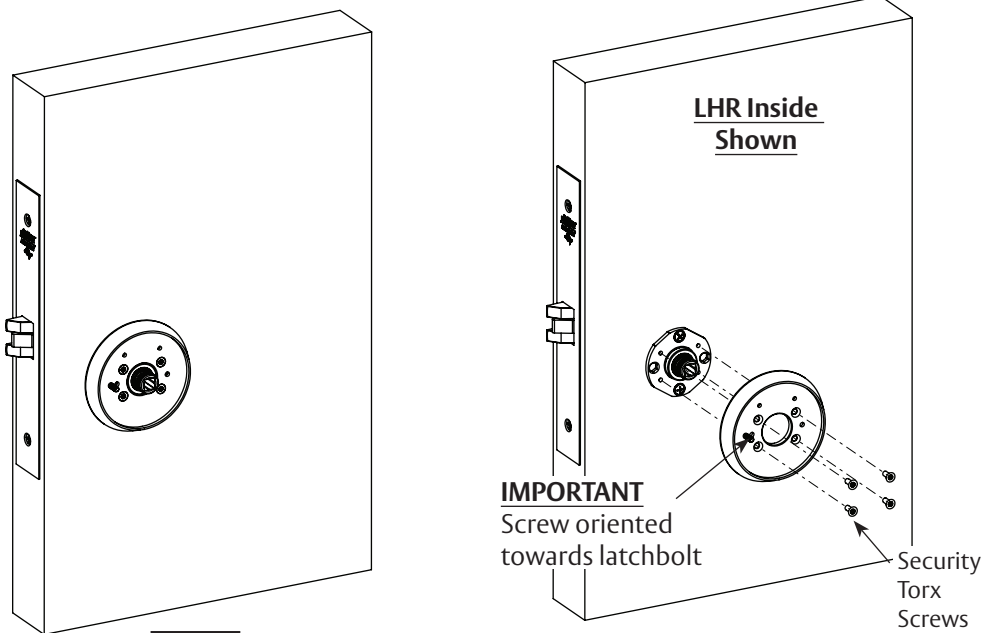

Figure 11
Attach inside rose assembly to inside adapter plate using four (4) security Torx screws. Tighten screws evenly. (Figure 11)